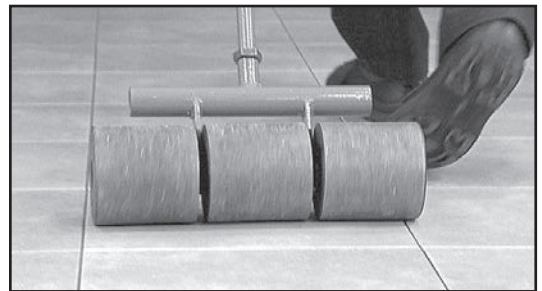

Fig. 15 - Roll the floor within one hour after setting tiles.
- Roll the floor slowly, in both directions, with a 100-pound, three-section roller within one hour after setting the tiles (Fig. 15). Re-roll the entire floor immediately before grouting or applying joint sealer.